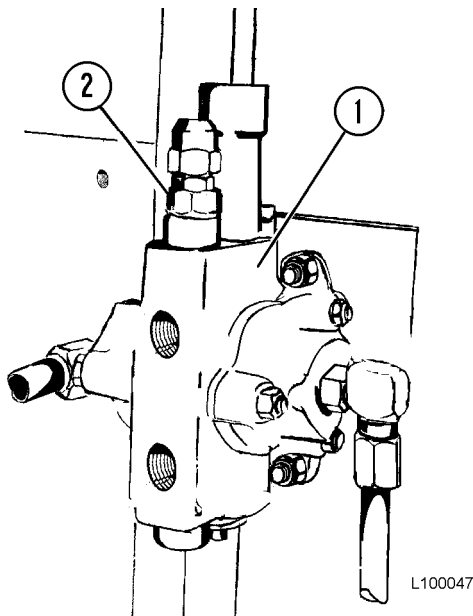

FIGURE 10-14. POWER DOWN RELIEF VALVE
- a. Remove the cap from power down relief valve (2, Figure 10-14).